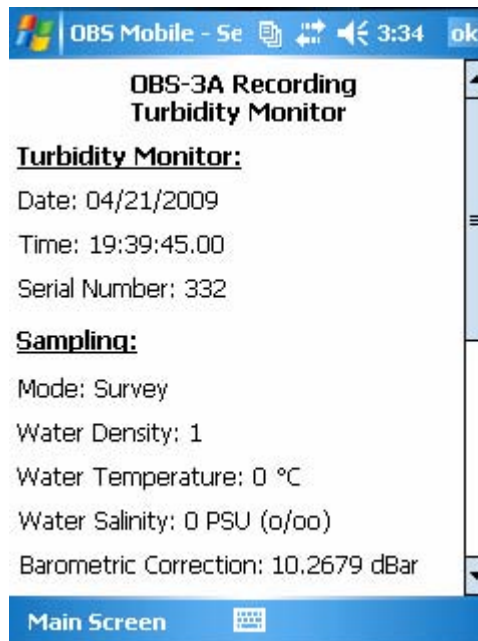

FIGURE 1-8. Window for Viewing Instrument Information
6. Click  **OBS-3A Info** to view time, serial numbers, depth corrections, and software versions (FIGURE 1-8).